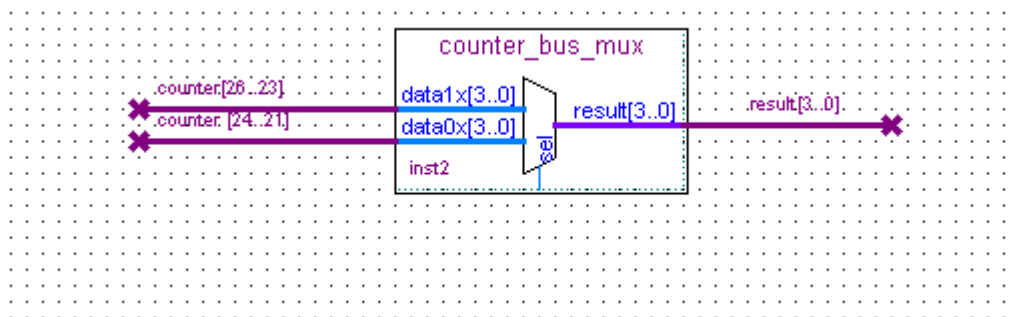

Figure 3-26 Renamed counter_bus_mux Bus Lines
- h. Click OK. **Figure 3-26** shows the renamed busses.